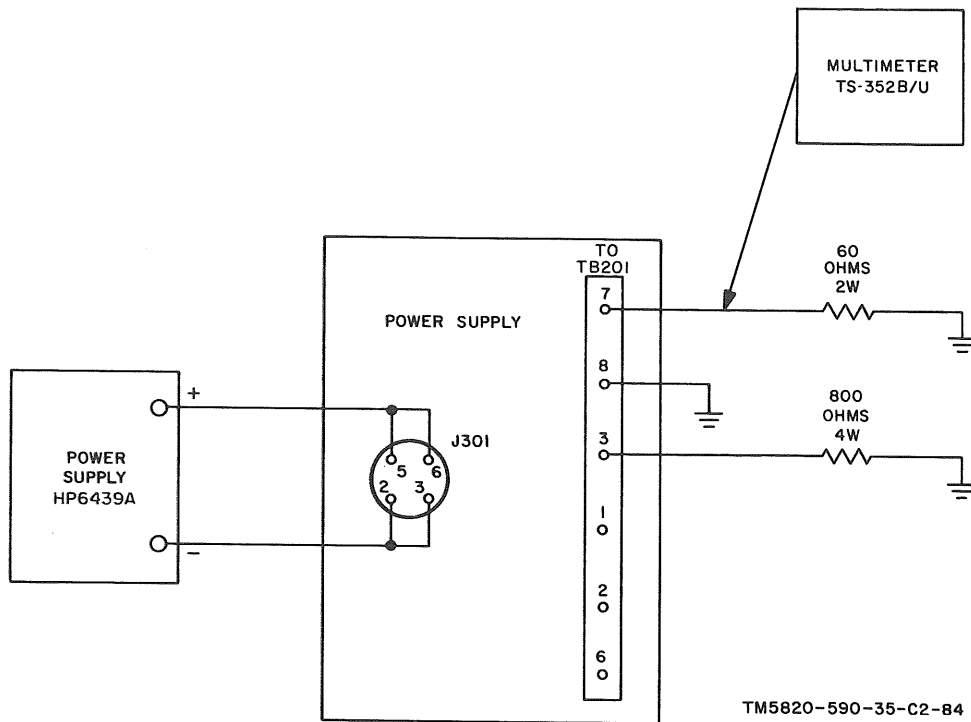

Figure 4.1-7. Power supply module, test setup.
a. Connect an 800-ohm, 4-watt resistor between the terminal 3 lead to TB201 of the power supply module (figs. 4.1-7 and 4.1-8 and ground).